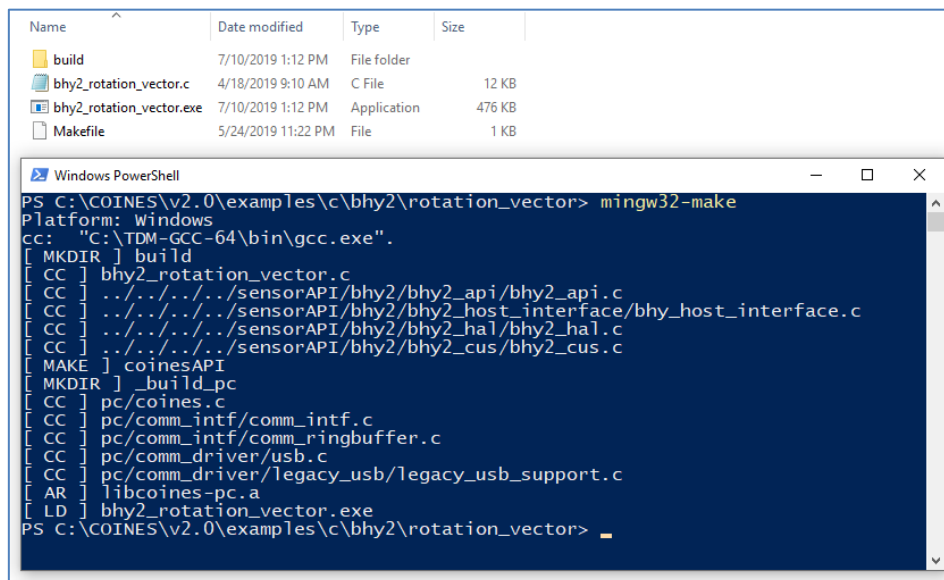

Figure 7 COINES compiling to EXE file
- Type `mingw32-make` and press Enter key. The exe file is generated as shown in Figure 7.